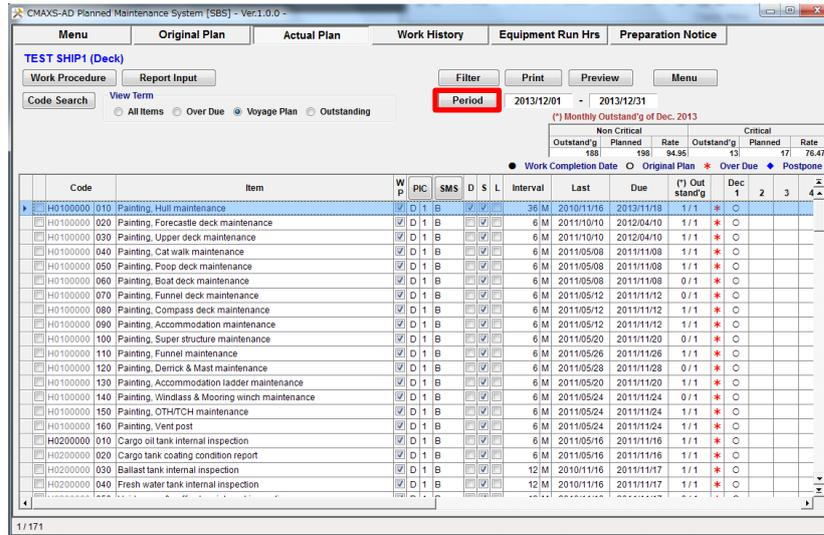

Fig.5-2 Actual Screen
- (2) "Actual Plan Screen"(Fig.5-2) is displayed.